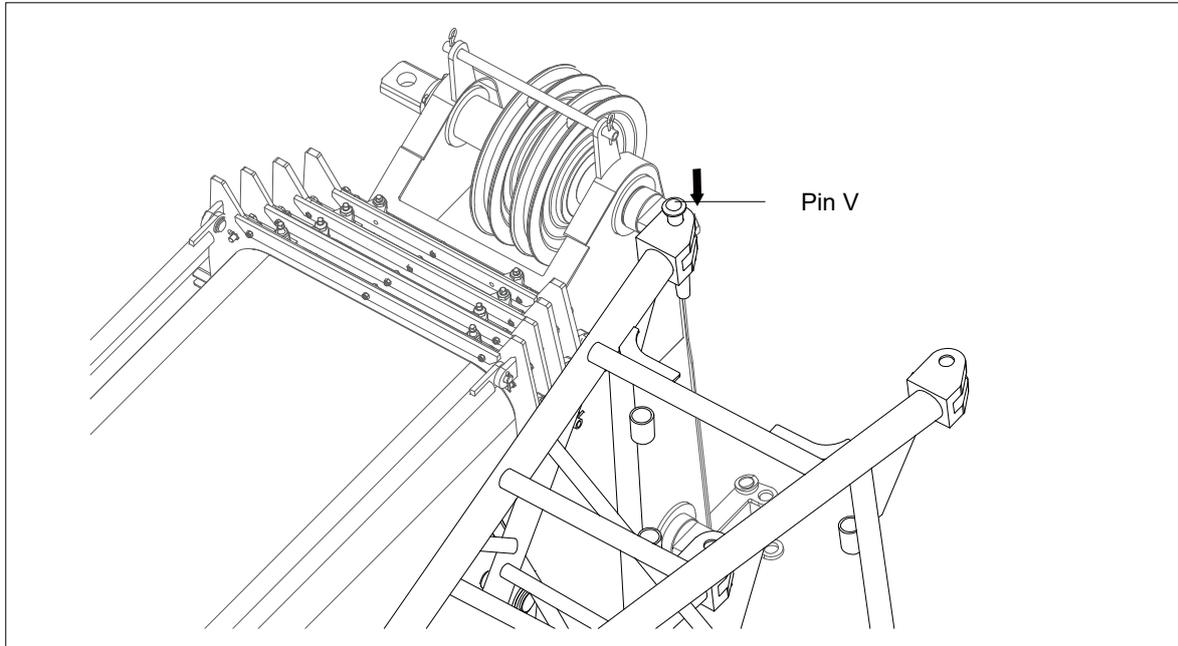

Figure 5-7 Pin V installation
- f) Align the end of the jib with the pin holes on the right side of the boom head. Install the pin V and the retaining clip. See Figure 5-7.